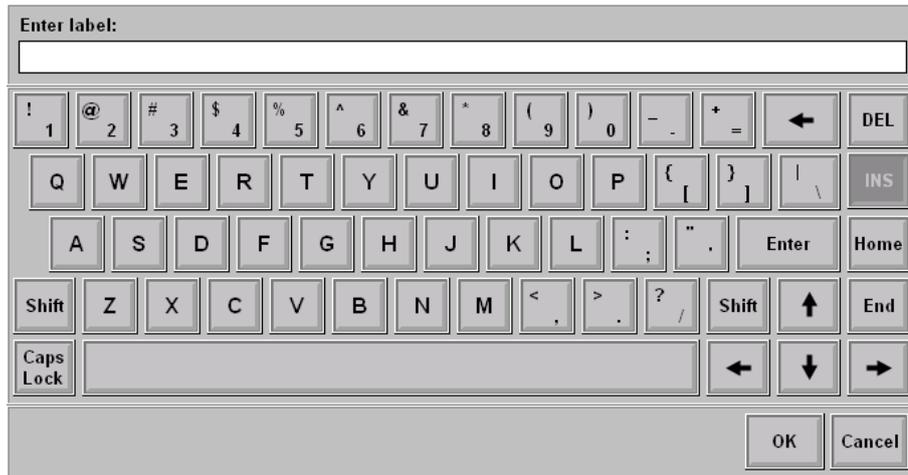

Figure H.14: Change Label Window
- press “Change Label” softkey and wait for a window with a screen keyboard will appear (see figure H.14);